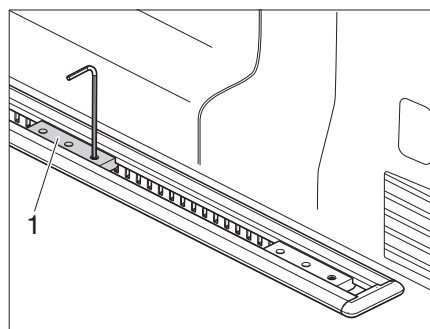

Fig. 27 Removing the slot nut
- Screw off the hexagon socket screw of the **front** slot nut (Fig. 27,1) and remove the slot nut from the rail. The rear slot nut does not have to be removed.